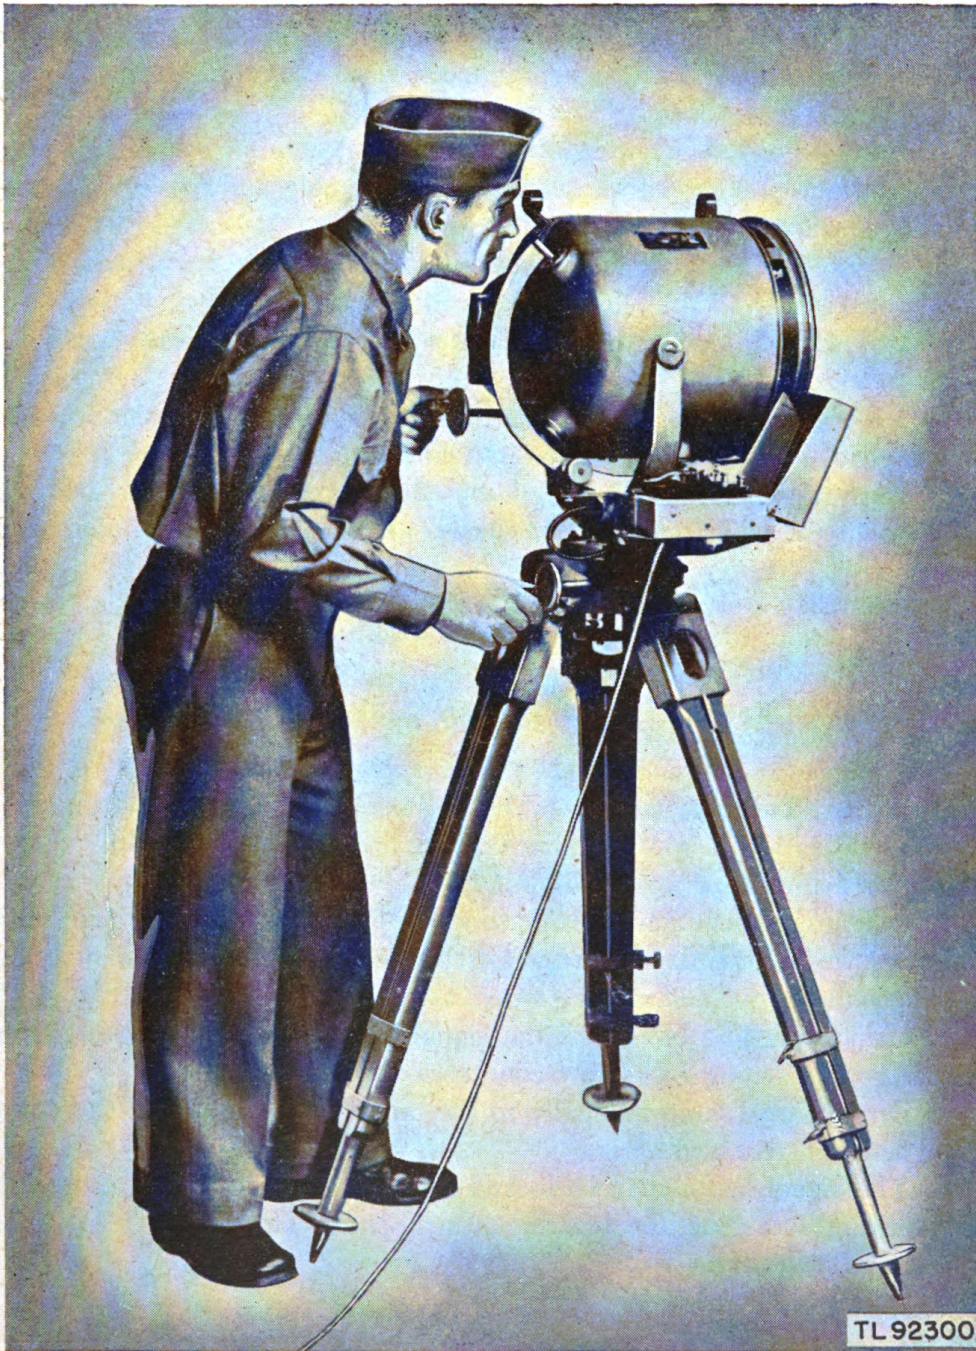

Figure 12. Mechanical operation of Signal Lamp Equipment EE-80-().
18. Mechanical Operation of Signal Lamps M-283 and M-124 (fig. 12).